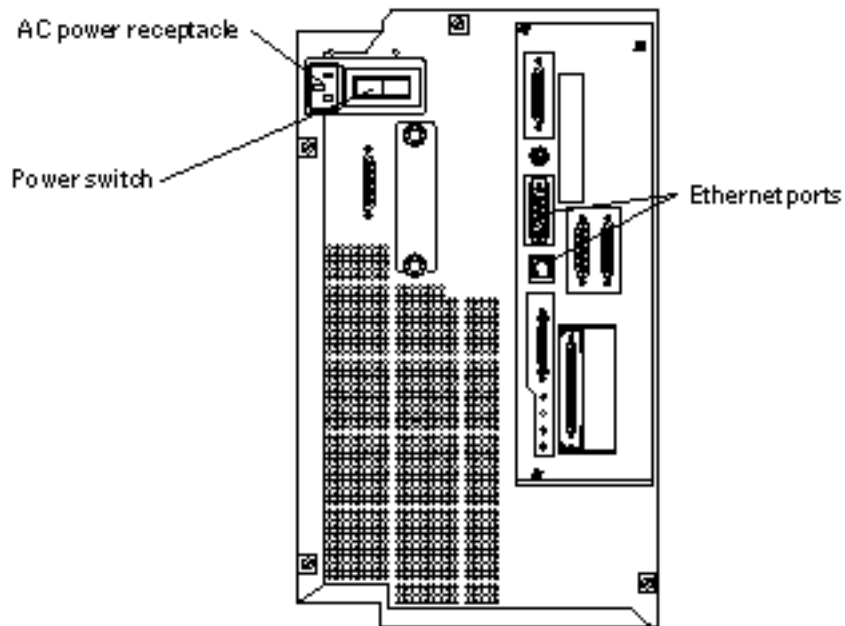

Figure 1-2 Connecting the Netra 150 Server to the Network
2. Verify that the Netra 150 server power switch is in the OFF (O) position (Figure 1-2).
3. Connect the power cord to the AC power receptacle at the rear of the Netra 150 server (Figure 1-2).
4. Connect a network cable from the Internet connection to one of the two Ethernet ports at the rear of the Netra 150 server (Figure 1-2).